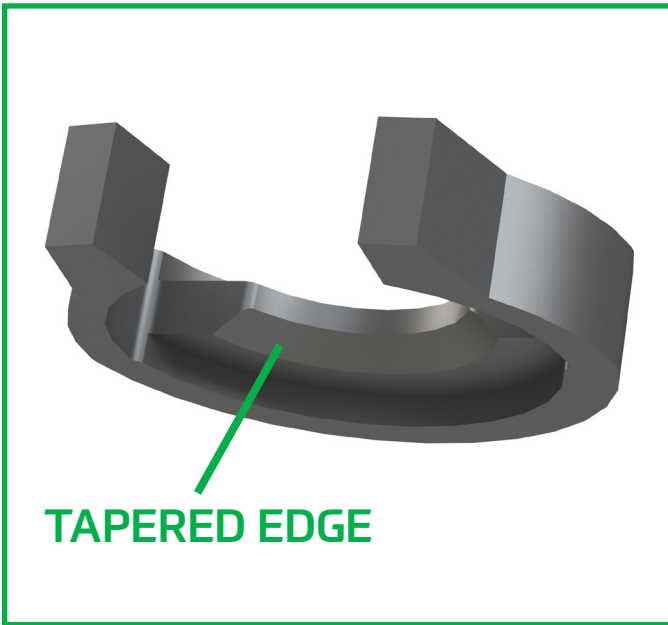

FIGURE 6
2. Check for proper orientation of the air line retention clip. Make sure that the tapered edge is facing downward, toward the spring, and is fully seated. (Figures 6, 7)